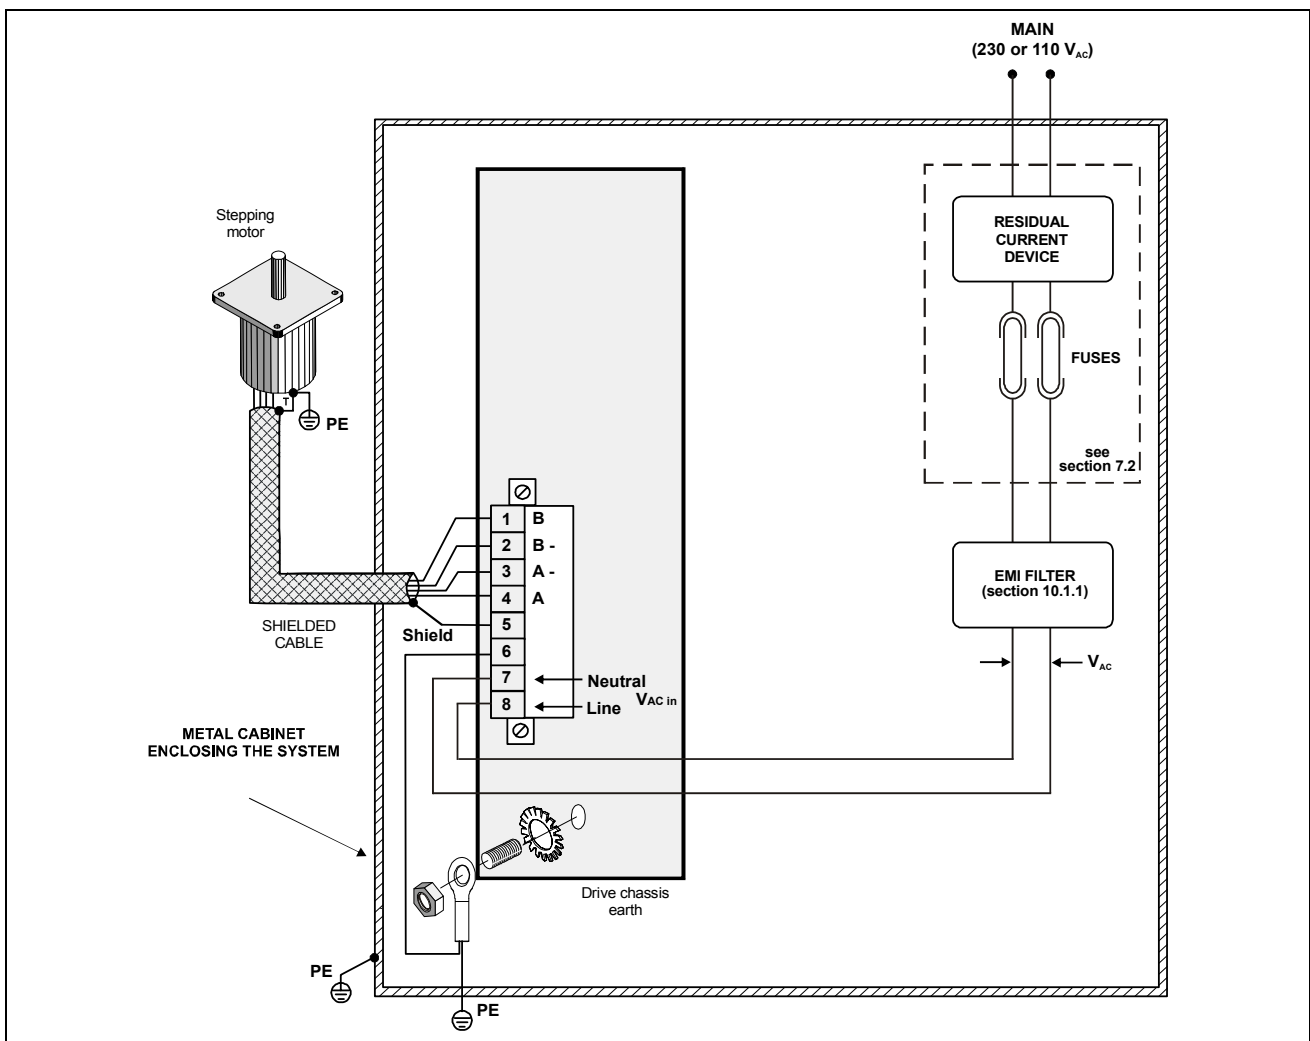

Fig. 7 – Drive external connections scheme.
7.2- Protection systems indicated in Fig. 7 must include:
- Interpose an EMI filter in AC power input line (see Fig. 7) in order to reduce conducted electromagnetic interferences. Filter characteristics in a specific installation depend on following factors: